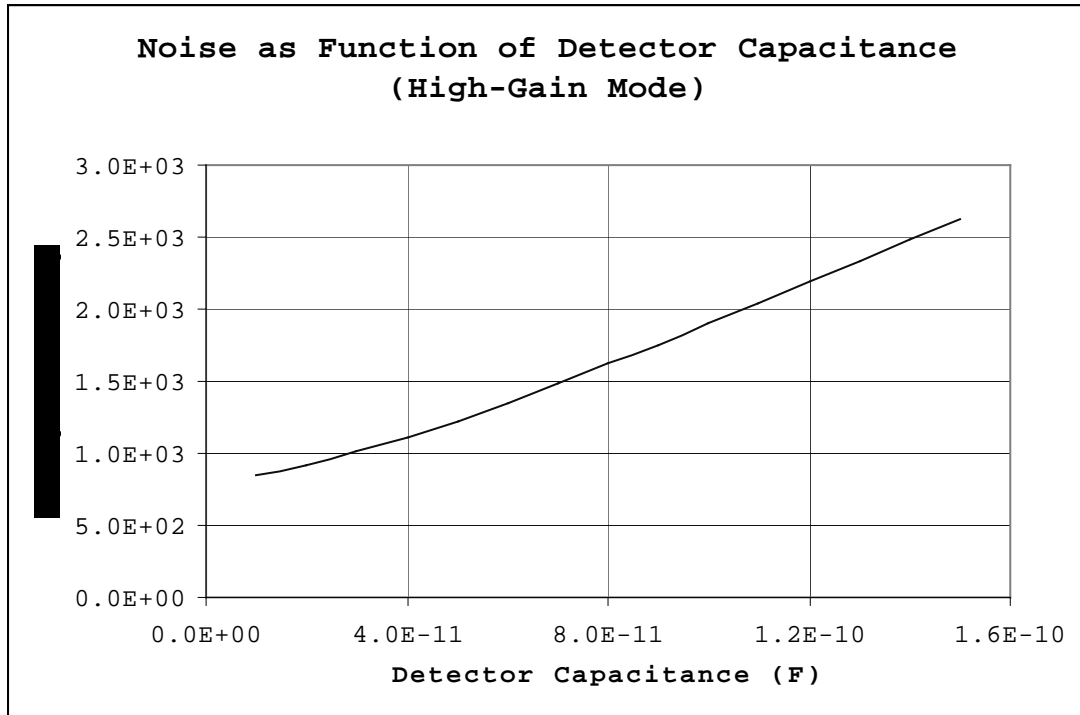

Figure 7: Noise Performance of CSA (high-gain mode) Versus C_{det}
- Figure 7: Noise Performance of CSA (high-gain mode) Versus C_{det}
The noise performance of the CSA (high-gain mode), as a function of detector capacitance, is depicted in Figure 7. The slope of the curve is approximately 12 electrons per pF. The graph represents the total integrated noise in a bandwidth of 10 KHz to 1 MHz (roughly the bandwidth of the shaping filter).